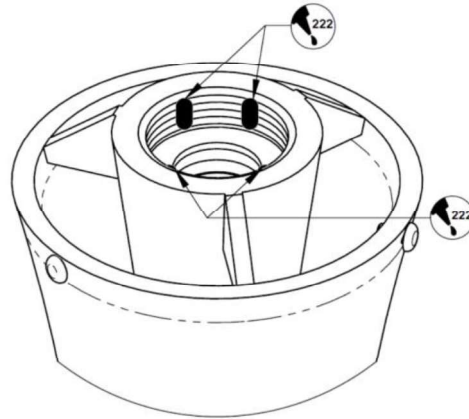

Figure 7 – LOCTITE® 222 Locations for Re-Entrant Tip Replacement
- 2.4.2 Per Figure 7, apply four thin strips (approx. 0.25" wide) of LOCTITE® 222 to Re-Entrant Tip threads.